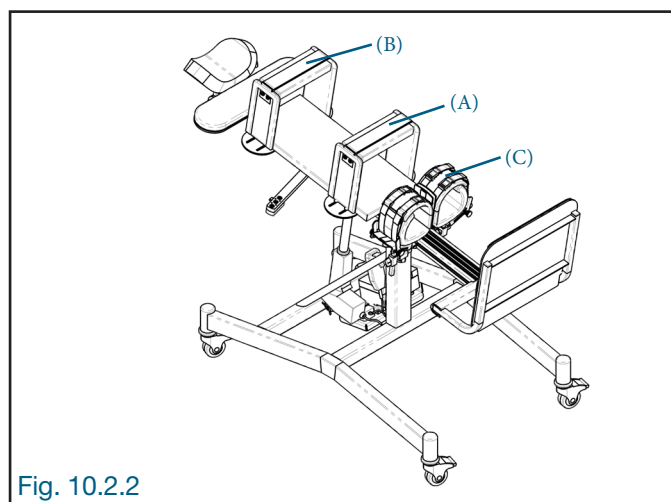

Fig. 10.2.2
10.2.2 VERTIFLEX TYPE DORSAL (fig. 10.2.2)